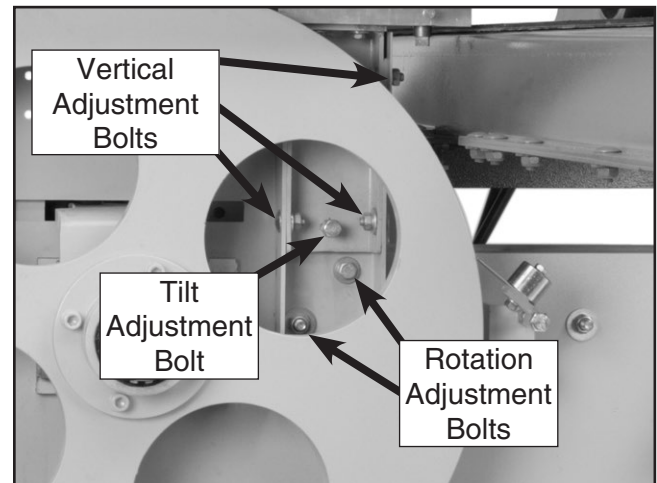

Figure 57. Guide block adjusting bolts. (fourth vertical adjustment bolt hidden behind the wheel in this picture).
2. Loosen the vertical adjustment bolts shown in **Figure 57** if the blade is not centered vertically in the guide slot.
6. Loosen the lock nut on the tilt adjustment bolt indicated in **Figure 57**, and adjust the tilt adjustment bolt until the guide block is level.
8. Loosen the rotation adjustment bolts shown in **Figure 57** if the blade touches the guide on the right or left sides.